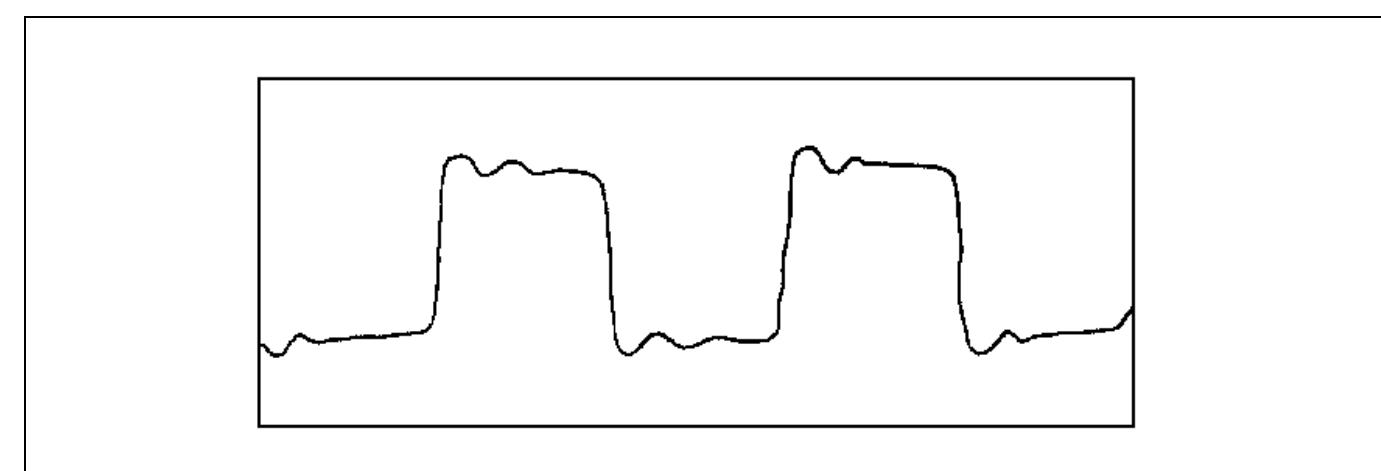

Figure 5 - 25 Hz Squarewave (Typical)
1. Set up S3 for Test (B) as shown in Table 4, and reset the GETC. Make sure the receiver is squelched.
3. Check for a 2 volt peak-to-peak 25 Hz filtered square wave at J19-5 (Subaudible data encode port). See Figure 5 for expected output.